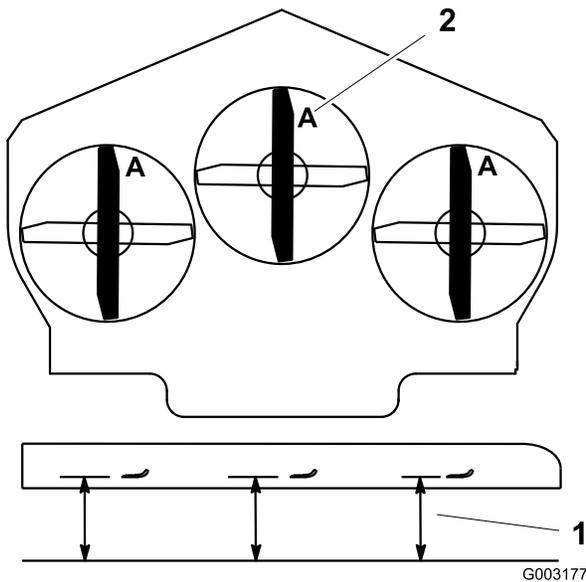

Figure 86
3. Rotate the blades until the ends face forward and backward (Figure 86). Measure from a level surface to the cutting edge, position **A**, of the blades (Figure 86). Note this dimension.